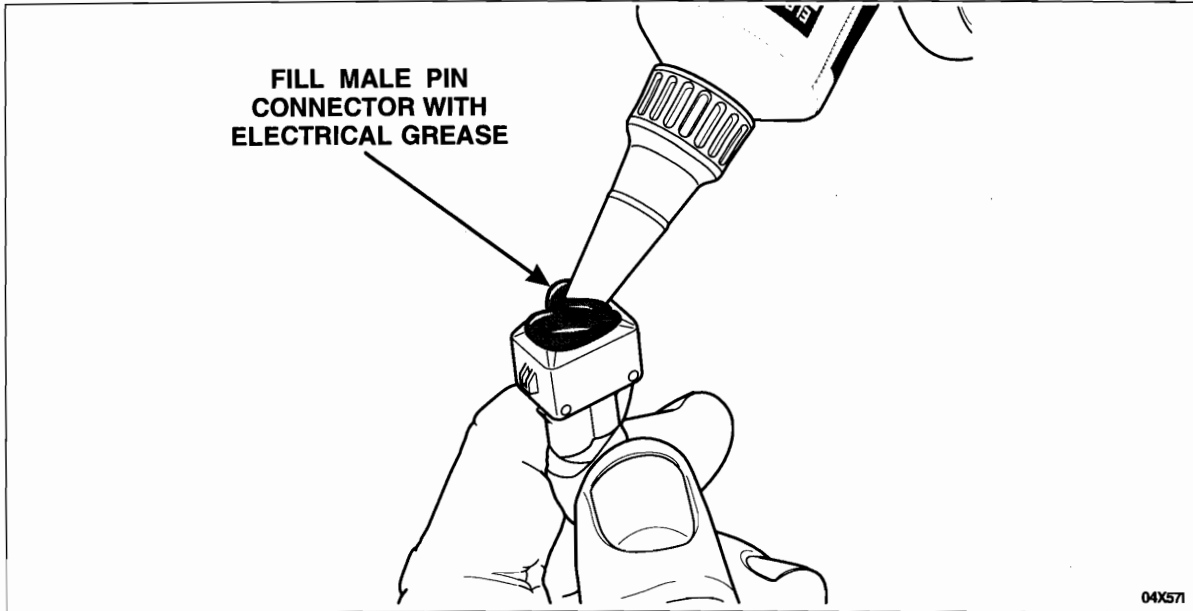

FIGURE 8
9. Before installing the jumper harness, fill the vehicle harness end of the jumper (male pin connector end) with Motorcraft Electrical Grease II XG-15-A. See Figure 8.